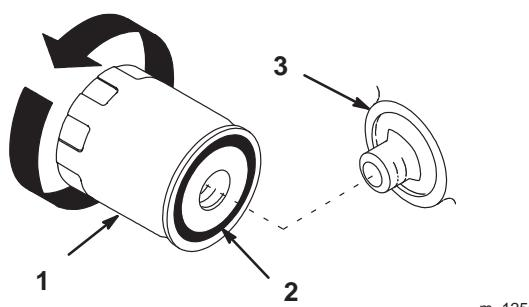

Figure 26
3. Remove the old filter and wipe the filter adapter (Fig. 26) gasket surface.
5. Apply a thin coat of new oil to the rubber gasket on the replacement filter (Fig. 26).
6. Install the replacement oil filter to the filter adapter. Turn the oil filter clockwise until the rubber gasket contacts the filter adapter, then tighten the filter an additional 1/2 turn (Fig. 26).